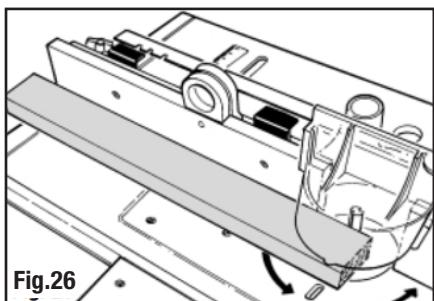

Fig.26
- Use a wooden straight edge to align the cutter blade with the rear MDF fence face (Fig 26), then begin your cut